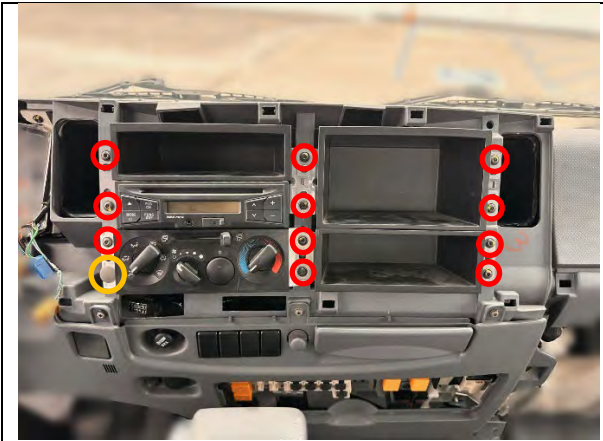

Figure 35
34. Install the cluster compartments, radio and A/C control panel removed in Step 17 (eleven (11) T25 screws and one (1) clip for the A/C control panel). If the vehicle is equipped with an aftermarket radio, follow the manufacturer's instructions for installing the radio. (See Figure 35.) **Torque the screws to: 2.9 N•m (26 lb•in)**